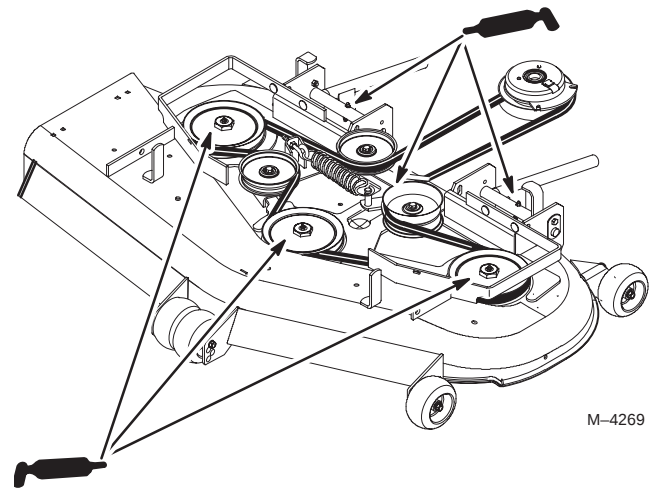

Figure 49
2. Grease the fittings on the three spindle bearings (Fig. 49).
3. Grease the idler pulley pivot (Fig. 49).
4. Grease the fittings on the push arms (Fig. 49).